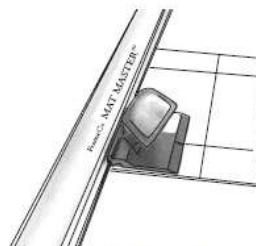

fig. 2 To begin cutting, align the start/stop silver line on the cutting head just behind the start (or bottom) pencil line.
5. Align the rule on the pencil line so the line is just visible, then attach the #201 cutting head to the rule - see fig. 2. The Mat Master™ #201 head will cut accurately on the line everytime.